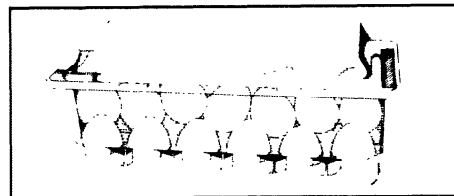

FIGURE 52
**Egg Storage.** A removable take-to-counter egg bucket stores eggs in a see-thru covered container. See Figure 52. To clean, handwash in warm soapy water.